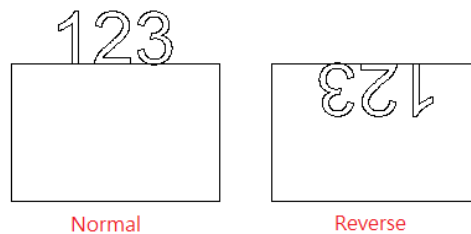

Fig. 3.3.25
**Reverse:** Reverse the text, see Fig.3.3.25.